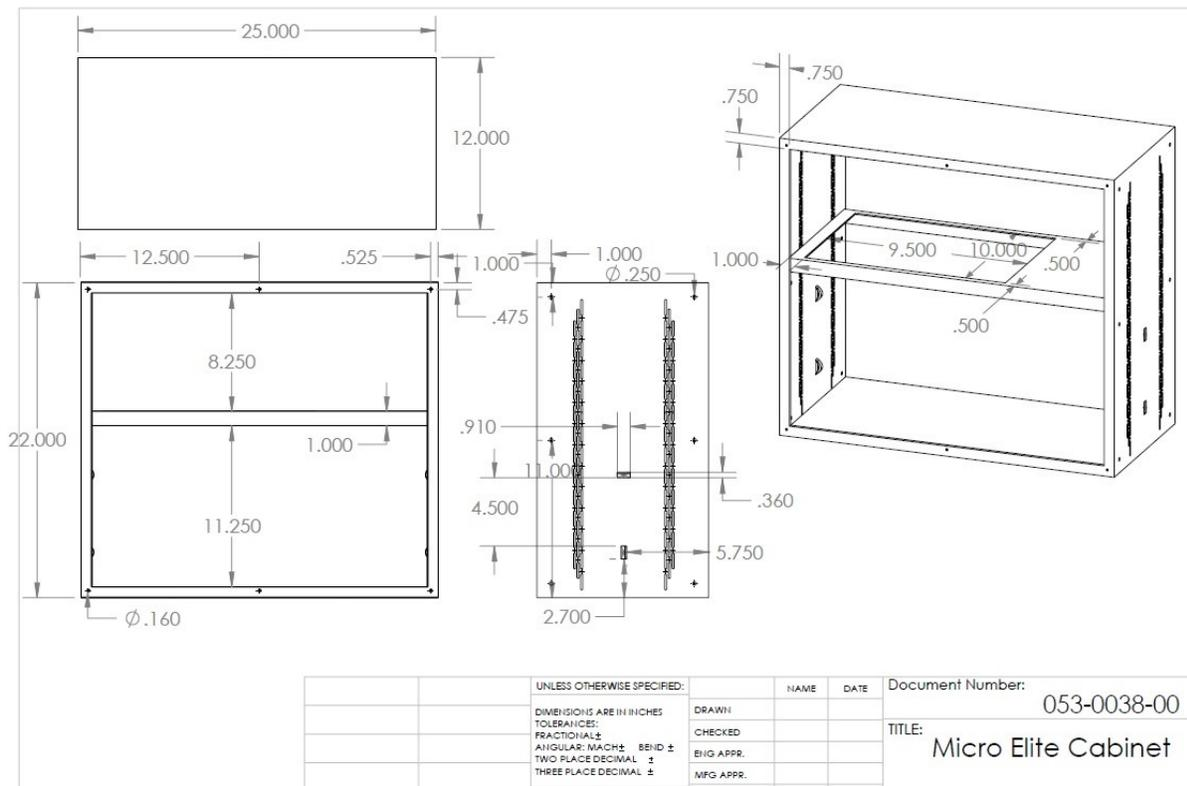
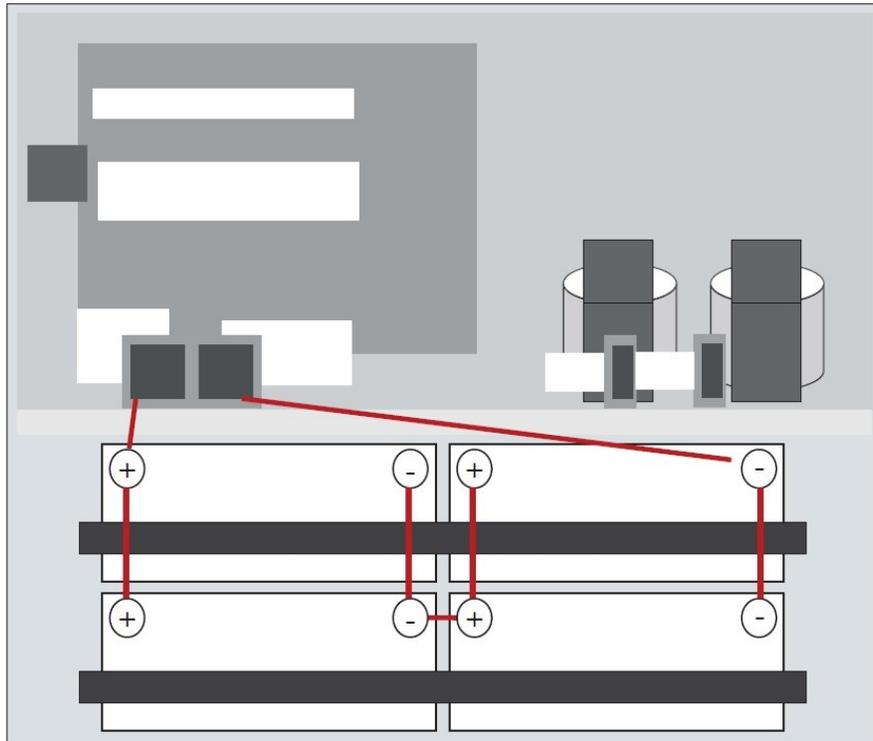

Figure 1
Figure 2
Note: Per code requirements, leave 3" on each side of the cabinet (including the back) and 3 foot clearance in front (Refer to Figure 1).
6.1.5. Make sure the proper polarity is observed. DC bus should be between 23.1 and 27.6 Vdc as tested at the Battery Bus Terminals (Refer to Figure 2 and 6—System Component Layout).
6.1.7. Securing the batteries. Each Unit will come with a couple banding poly plastic strips (See figure 2), along with a couple metal buckle to tighten the batteries to the cabinet. The cabinet was designed with four battery strap holders. These are located on each side of the cabinet (See figure 1). The bottom two (vertical opening - left and right) are to secure the battery to the back wall when strapped. The two on top (horizontal opening - left and right) are to secure the battery to the bottom of the cabinet.